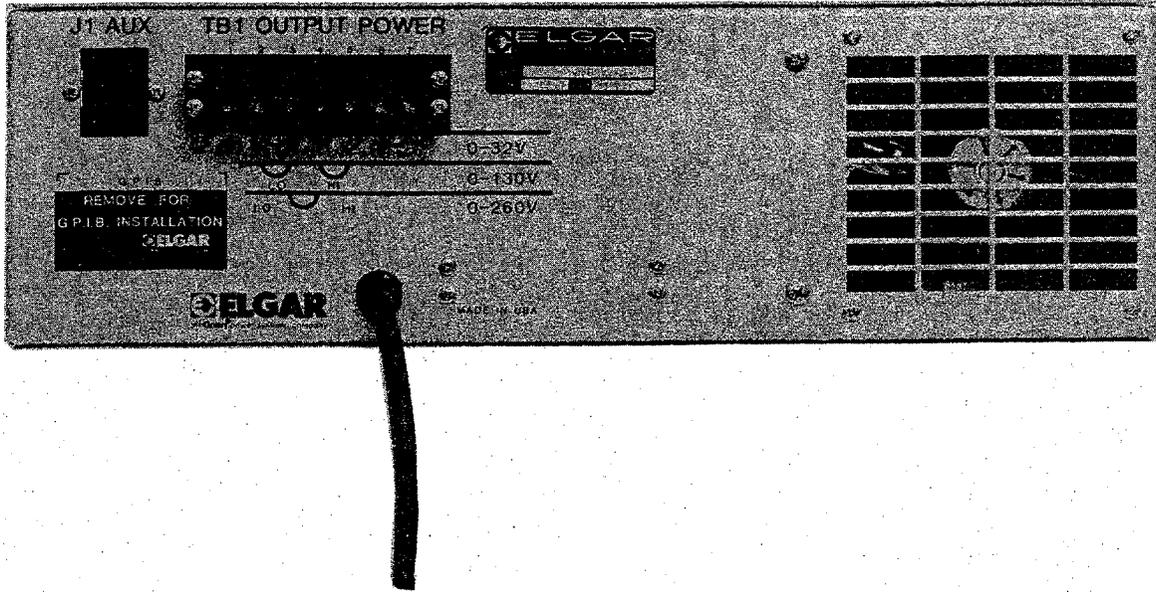

Figure 2-1. Model 251B Rear View.
2.16 When using an external oscillator, all input and control signals should be connected to J1, a 12-pin Cinch-Jones connector. J1 is located on the rear panels of the Model 251B and Model 501B. (Refer to Figure 2-1.) Connector J1 may also be used for external amplitude programming and synchronization of the internal Elgar plug-in oscillator to an external timing source. It is important to know that when an external oscillator is used, the input impedance must be matched to the input operational amplifier to obtain a gain of 1.
2. Connect the load to the appropriate terminal of the rear panel power output terminal block (See Figures 2-1 and 2-2). For bench-mounted applications, the front panel binding posts may be used for 130V output only on the Model 251B. The front panel binding posts may be used for 130V or 260V output on the Model 501B.